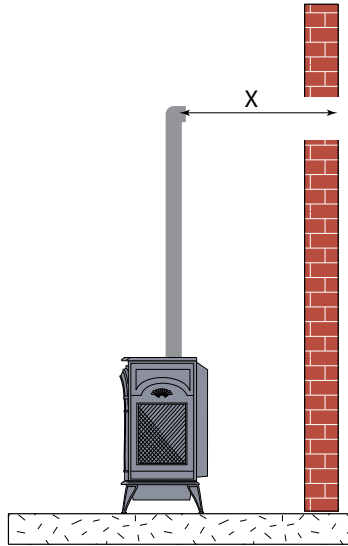

Fig. 32 Horizontal Length Requirement
5. Measure the horizontal length requirement including a 2" (51 mm) overlap, i.e. from the elbow to the outside wall face plus 2" (51 mm) (or the distance required if installing a second 90° elbow). Figure 32